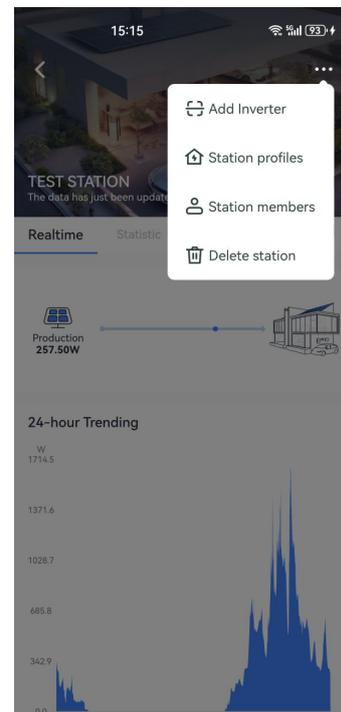

Figure 8.4.3
- Click the "... " icon in the upper right corner of the page icon, an editing pop-up window will appear, in which you can add micro-reverse, view power station information, delete power stations and other functions(As shown in Figure 8.4.3)